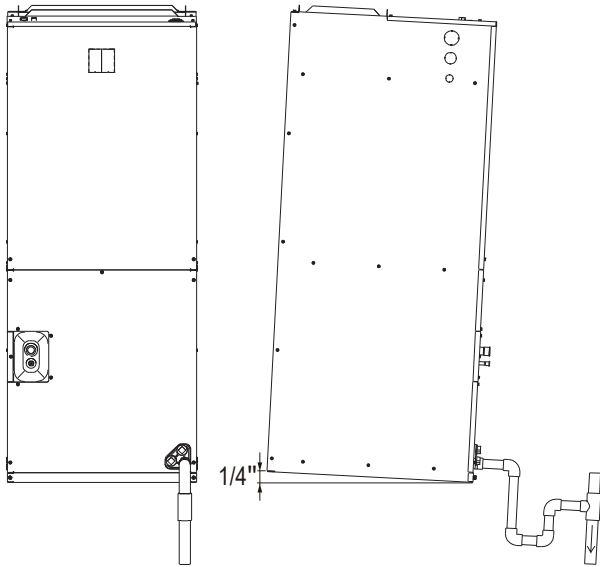
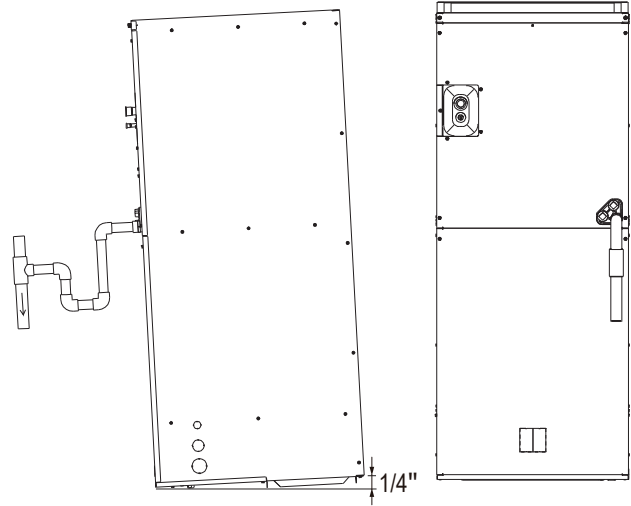
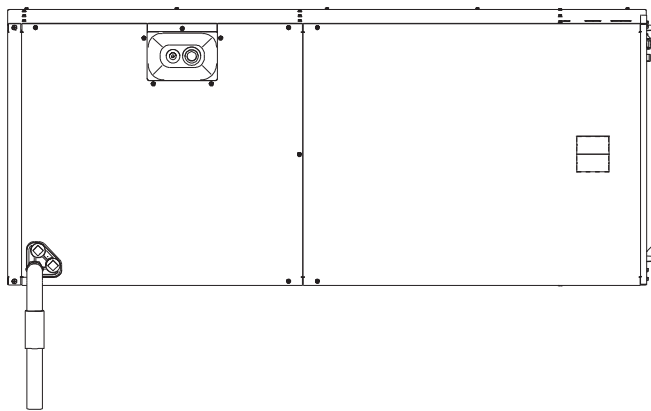
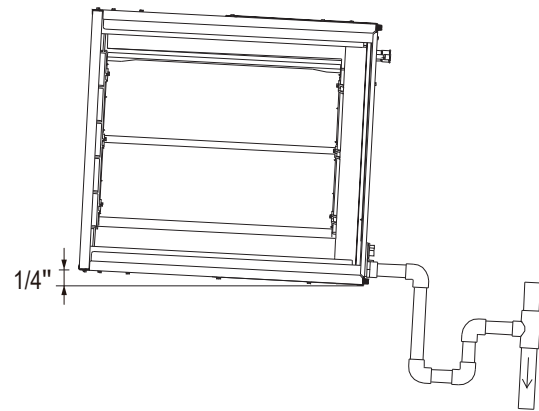

Fig.8-2 Vertically upflow view
Fig.8-3 Vertically downflow view
Fig.8-4 Horizontally right view
Fig.8-5 Horizontally left view
- Make sure unit is level or pitched slightly toward primary drain connection so that water will drain completely from the pan. Up to an additional 1/4" rise over the width or depth for the unit is allowed to create additional sloping towards the drain. Unit must be positioned between level and 1/4" rise sloping toward the drain connections. See Fig.8-2, Fig.8-3, Fig.8-4, Fig.8-5.